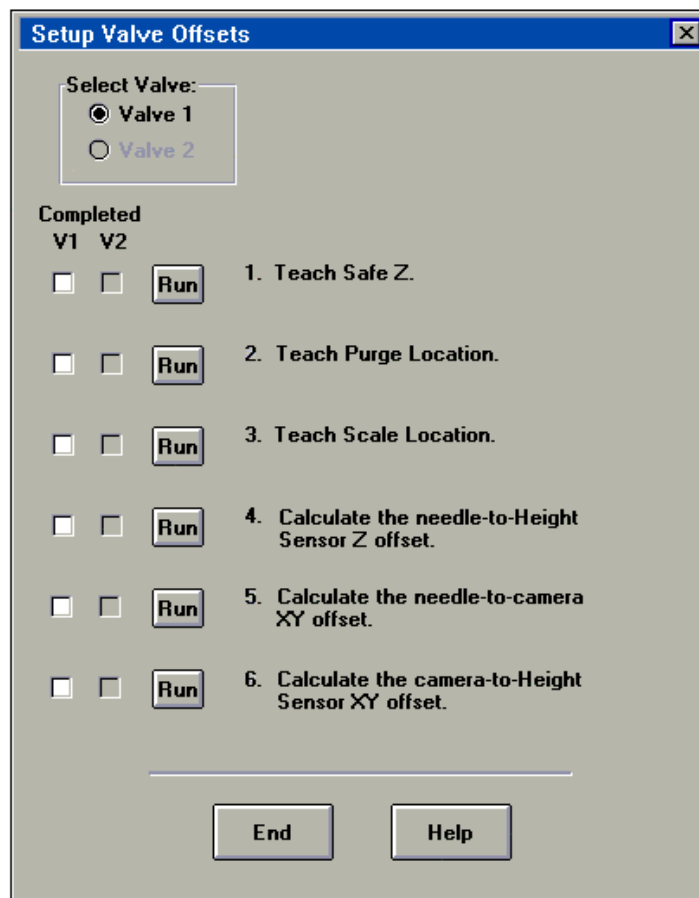

Figure 6-6
- ▶ The Setup Valve Offsets dialog box, shown in Figure 6-6, opens.